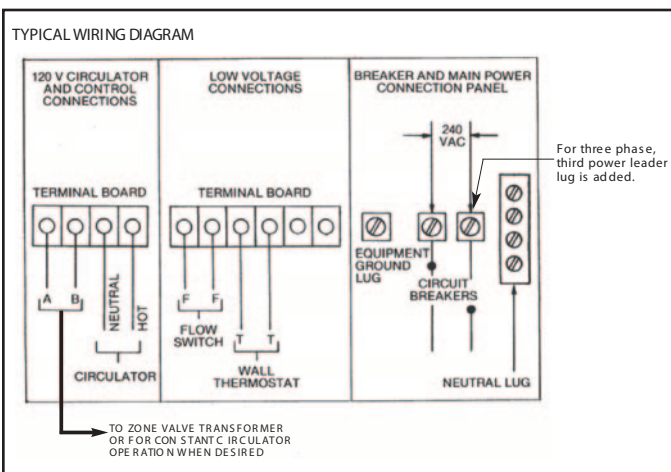

Figure 2. Typical Wiring Diagram for Models equipped with Circuit Breakers.
All circuit breakers ahead of boiler must be OFF. Remove the Control Panel (left-hand front cover) by removing 5 screws from top, bottom and side flanges. The centre compartment contains a 24V control terminal board marked, "FF/TT" (see figure 2) Wire a 24V, two-wire heating thermostat or the auxiliary end switch terminals from zone valves (see Figure 7) to "TT". The "FF" terminals are for a flow switch. Do not connect the wires to the flow switch "FF" terminals until the by-pass flow adjustments are completed. Refer to "Bypass Flow Adjustment" (page 7) for wiring and adjustment procedures. The flow switch wires should be taped at the boiler until they are to be connected to "FF".
- A. All circuit breakers ahead of boiler must be OFF. Remove the Service Connection Panel (right hand front) cover by removing 5 screws from the top, bottom and side flanges (see wiring diagram on back of the Service Connection Panel and Figure 2).